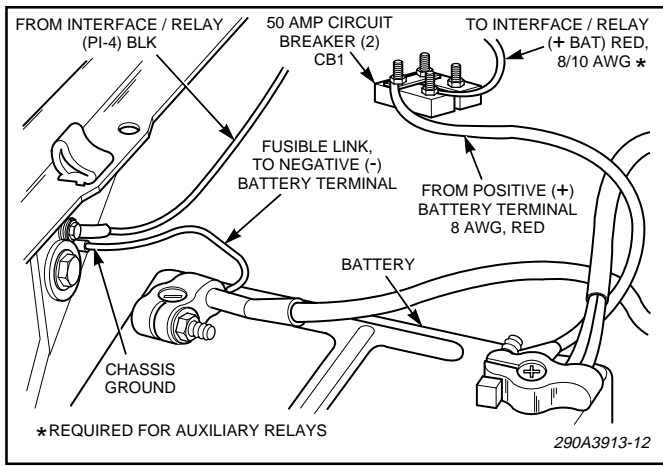

Figure 3-9. Battery Connections.
4. See figure 3-9. To protect the wire, 2 circuit breakers (CB1) rated at 50-amperes (Federal Part No. 8474A176 or equivalent) should be connected as close as practical to the positive (+) battery terminal. When the total load current is greater than 50-amperes, use a 100-ampere circuit breaker. When the total load current is less than 50-amperes, use a 50-ampere circuit breaker.
When making the following connections, never exceed the current rating of the circuit breakers (CB1) near the battery (see figure 3-9). Failure to do this will result in a shutdown of the vehicle warning system.